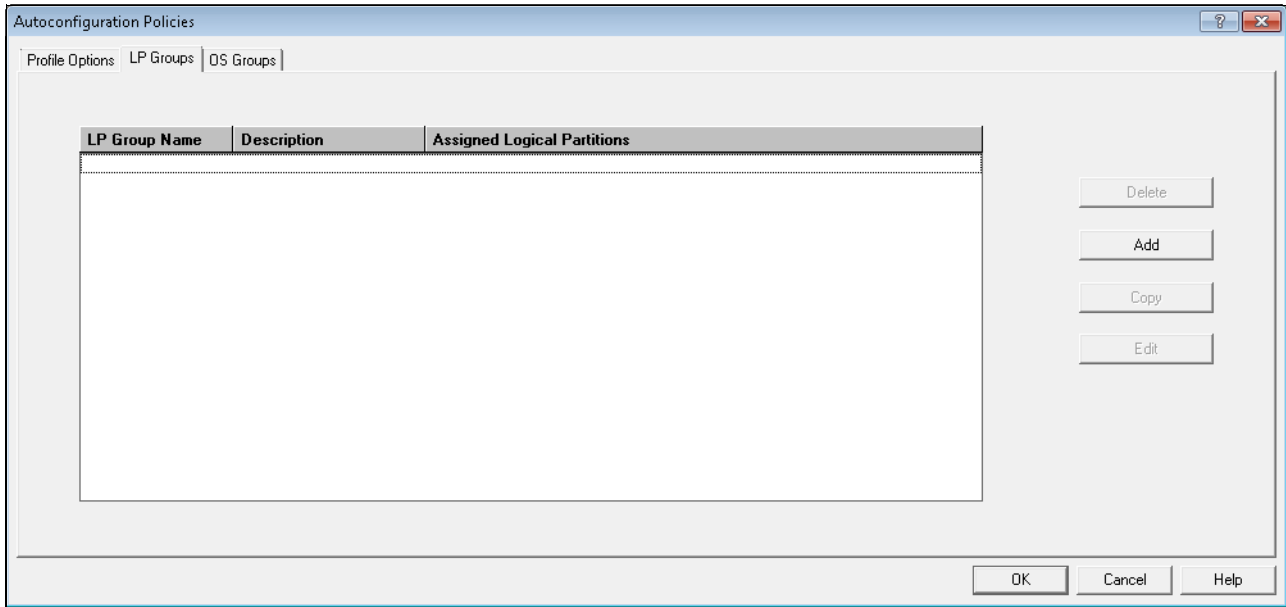

Figure 4-41 HCM - Autoconfiguration Policies: LP Groups with nothing defined
1. Click the **LP Groups** tab (Figure 4-41 on page 147). This window shows that no LP groups are currently defined in this policy. Then, click **Add**.